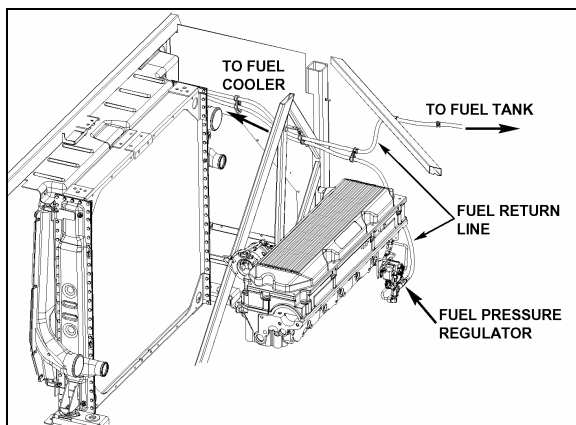

FIGURE 20: FUEL RETURN LINE
3. Discard potentiometer (Fig. 20).
4. Position new potentiometer. Press potentiometer onto the potentiometer shaft, matching cutouts in shaft to drive tangs of potentiometer. Apply hand pressure until potentiometer has bottomed out in housing. Reinstall screws (Fig. 20) and tighten just enough to secure potentiometer lightly. Tighten screws to 10 - 20 lbf-in (1.5 - .2 Nm).